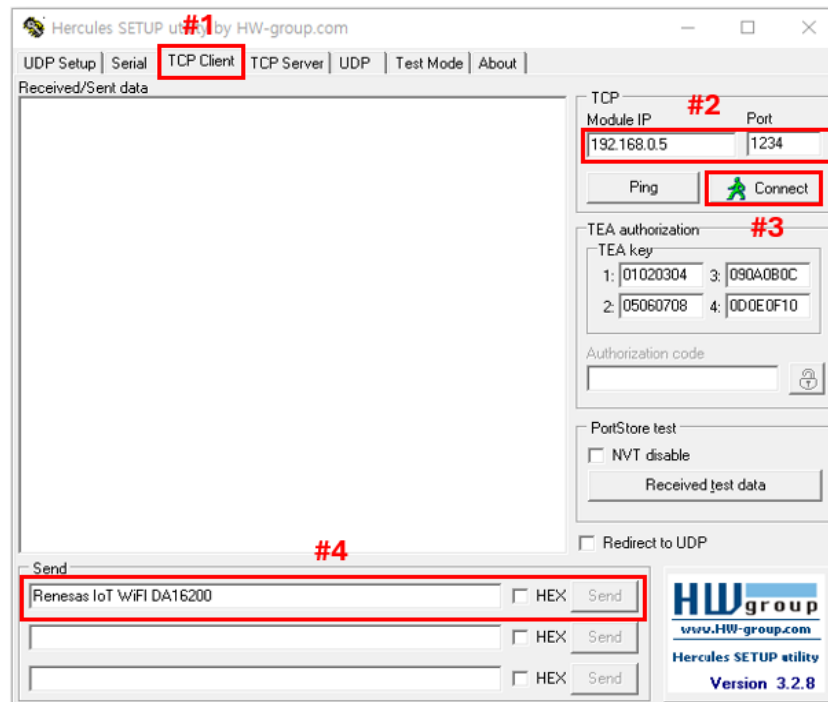

Figure 27: Hercules – TCP Client Socket Setting
- a. Select **TCP Client** (#1, Figure 27).
- b. Enter the IP address and the port number of DA16200/DA16600 (#2, Figure 27).
- c. Click **Connect** to connect the socket (#3, Figure 27).
- a. Send data (#4, Figure 27).